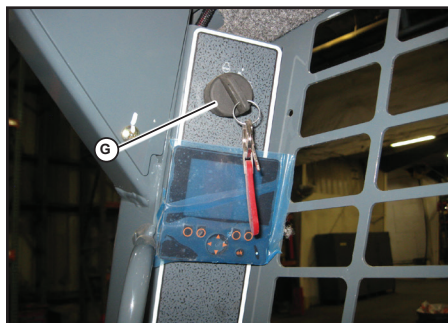

Fig. 20 - Ignition Switch
6. Insert the ignition key into the ignition switch (G, Fig. 20) and turn the key clockwise to the first detent. Wait for the multi-function display to initialize completely. Indicators on the indicator panel should light up and a tone will sound. The battery voltage and preheat indicators may stay lit for 3-30 seconds.
Follow the maintenance schedule. See "Fig. 20 - Ignition Switch" on page 64.